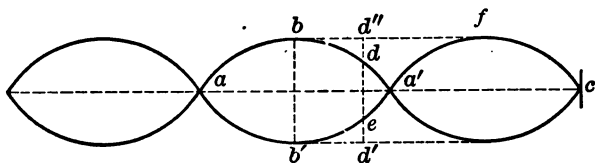

FIG. 117
**155. Stationary Vibrations.** — If the cord be fastened at one end, it may be made to vibrate in such a way that the motion shall be sent back at  $c$  (Fig. 117), causing *stationary* vibrations; that is, at any point (as  $a$ ,  $b$ , or  $d$ ) the particle would move to and fro without going to the full limit of vibration, as it would if the wave were simple. For instance, the outgoing wave,  $a$  to  $c$ , would tend to move  $d$  to  $d'$ ; but before it gets there the return wave,  $c$  to  $a$ , stops it at  $e$ , giving the particle an